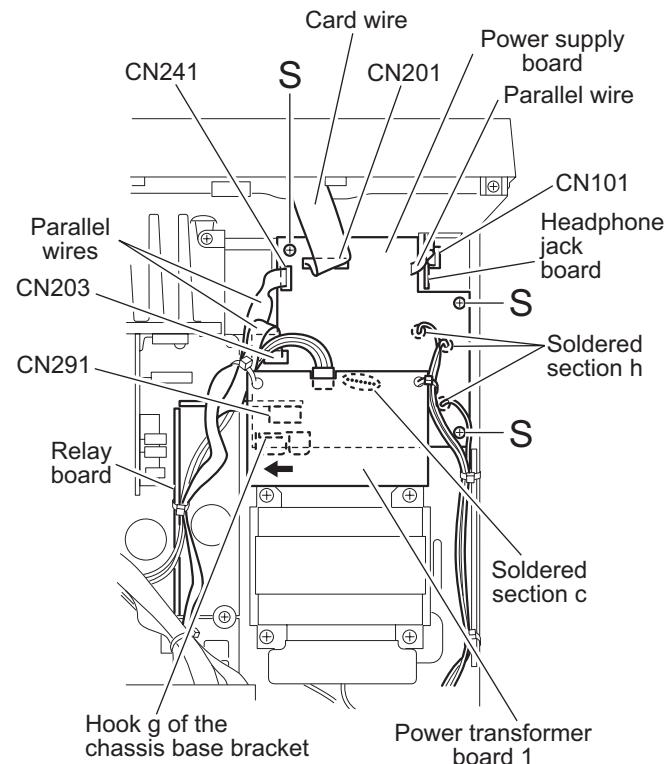

Fig.16
2.14 Removing the power supply board (See Fig.16)
2.15 Removing the headphone jack board (See Figs.16 and 17)
- (1) From the top side of the main body, disconnect the parallel wire from the connector CN101 on the headphone jack board. (See Fig.16)